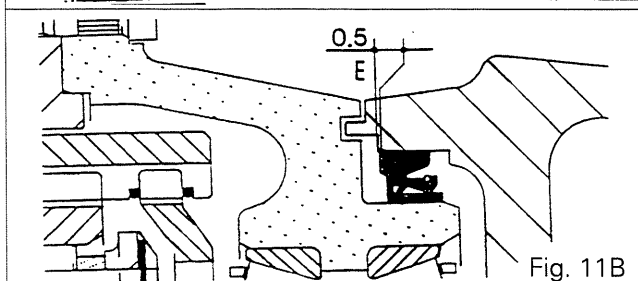

Fig. 11B
- AG 200: 0.5 mm from face E (Fig. 11B)